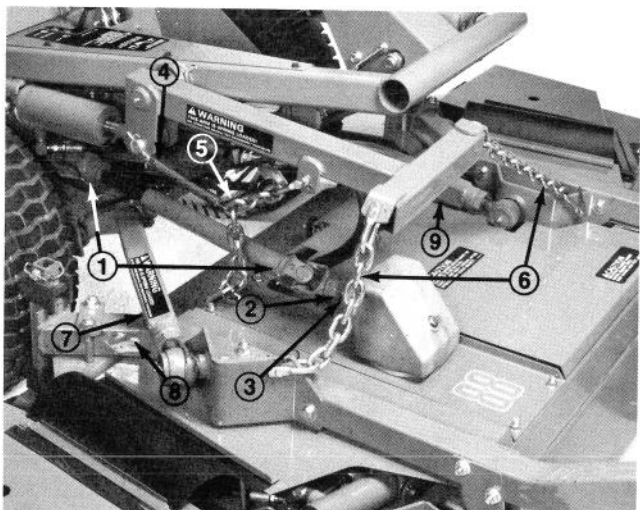

Figure 12
1. Line up holes in yoke and input shaft of gear box. Slide yoke onto shaft (Fig. 12) and secure parts together with roll pin (3/16 x 1-1/2 in.) (38 mm), capscrews and nuts.
3. Attach three lift chains to lift arm and cutting unit (Fig. 12) with six shackles, shackle pins (3/8 x 1-1/2 in.) (38 mm) and cotter pins (1/8 x 3/4 in.) (19 mm). Adjust chain length so that the front of the deck raises level (side to side). When main lift cylinder is fully extended the left push arm should be just below the frame stop (1/16 to 3/8 inch). Half chain link adjustments can be made by switching mounting holes in push arm brackets. Tie up extra chain links if additional length may be needed in the future.
4. Adjust length of rear chain so rear caster wheels are as far as possible from the ground but carrier frame does not contact right push arm when deck is lifted (Fig. 12).
6. Connect ends of tension spring between fourth link of rear chain and eye of cotter pin that holds cylinder pin in place (Fig. 12).